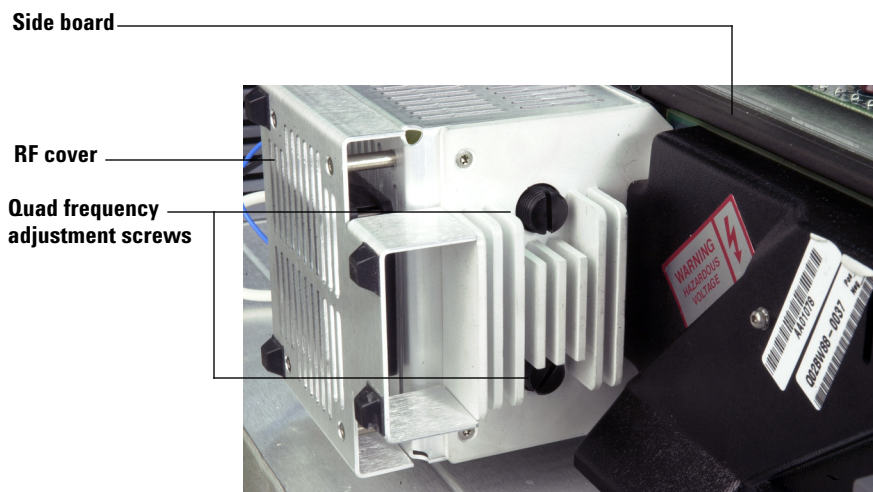

Figure 24 Adjusting the quad frequency
- 6 Slowly turn the quad frequency adjustment screws to minimize the voltage displayed (Figure 24).